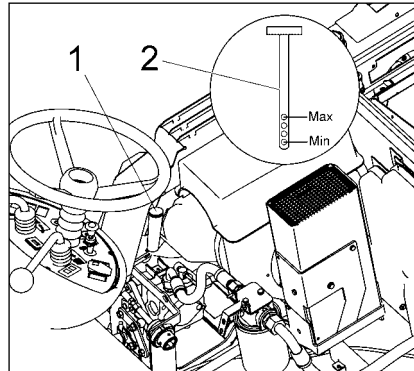

Abb.23
- Pull plug (Fig. 23/1) with dipstick.